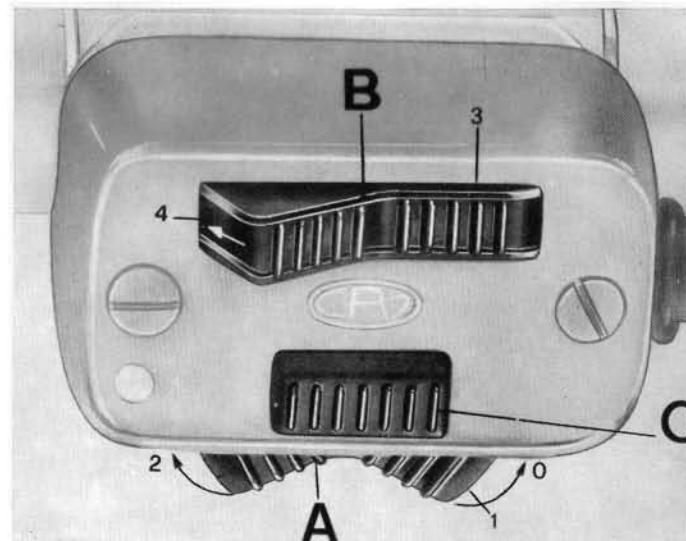

Fig. 9
- « 2 » Running position or machine ready to set out. All controls on. For daylight driving no other position necessary. For night driving levers A and B on the left handlebar must be switched on (Fig. 9).
Dimmer switch and horn button (See fig. 9)